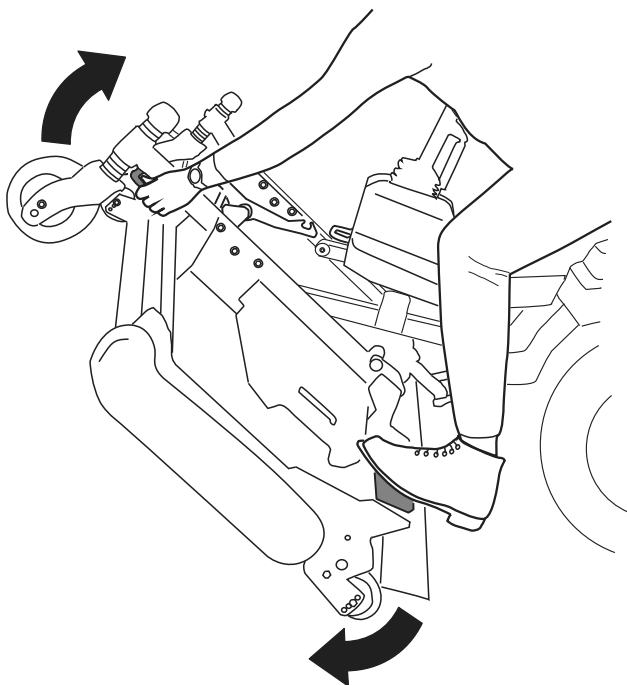
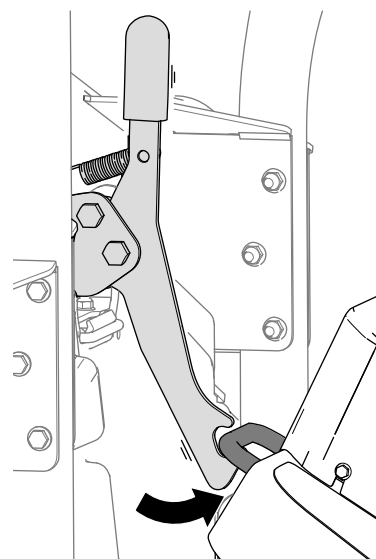
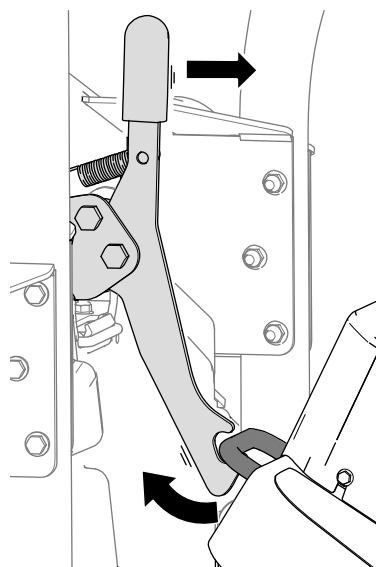

Figure 35
Figure 36
Figure 37
5. Rotate the cutting unit (Figure 35) so that the latch engages with the tie-down bracket (Figure 36).
1. Release the cutting-unit latch from the tie-down bracket (Figure 37) by slightly rotating the cutting unit slightly forward (refer to Figure 35) and pulling the latch handle forward.